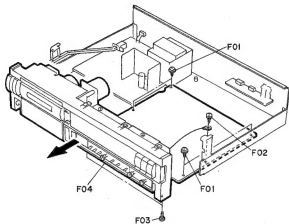
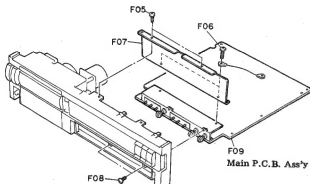

Fig. 2.5.1
Fig. 2.5.2
Refer to Fig. 2.5.1 and 2.5.2.
- (1) Remove the Front Panel Ass'y referring to item 2.4.
- (2) Loosen screws F01 (4 pcs.), F02 (1 pc.) and F03 (2 pcs.). See Fig. 2.5.1.
- (3) Slide out F04 (Front Chassis Ass'y & Main P.C.B. Ass'y) forward.
- (4) Loosen screws F05 (2 pcs.) and F06 (2 pcs.), and remove F07 (Shield Plate). See Fig. 2.5.2.
- (5) Loosen screws F08 (2 pcs.) and remove F09 (Main P.C.B. Ass'y).